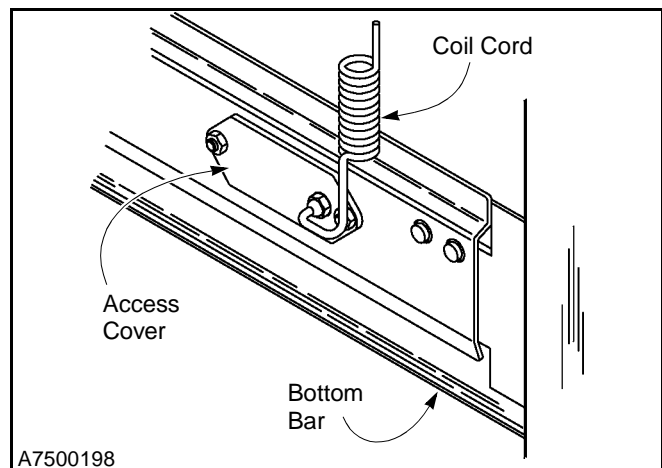

Figure 36
2. Remove the kill switch access cover at the end of the bottom bar assembly. The kill switch is mounted behind the access cover holding the coil cord. (See Figure 36.)